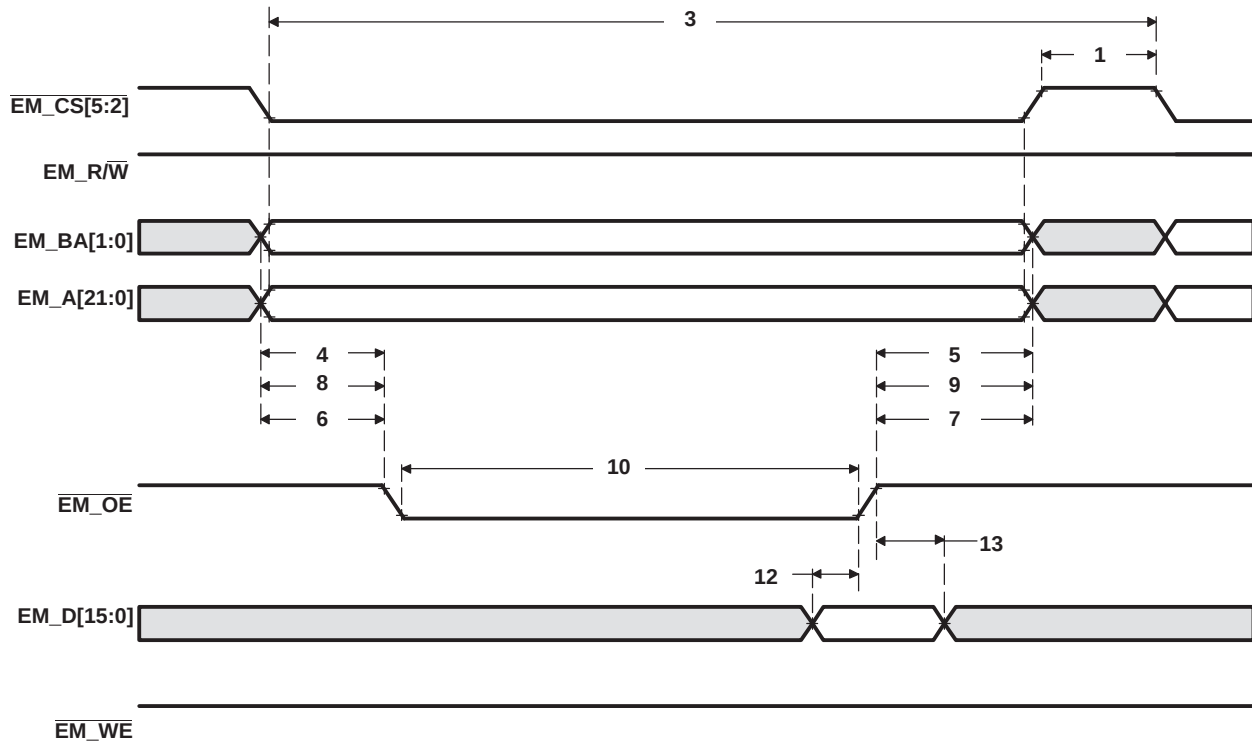

Figure 6-21. Asynchronous Memory Read Timing for EMIF
(see Figure 6-21 and Figure 6-22)
Table 6-35. Switching Characteristics Over Recommended Operating Conditions for Asynchronous Memory Cycles for EMIFA Module^{(1) (2)} (see Figure 6-21 and Figure 6-22)
Table 6-35. Switching Characteristics Over Recommended Operating Conditions for Asynchronous Memory Cycles for EMIFA Module (see Figure 6-21 and Figure 6-22) (continued)